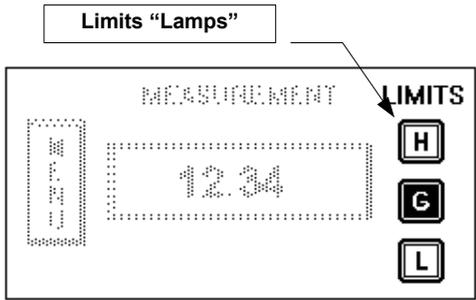

Figure ZD.2-5: Relay Activation GO Relay Activated
The Model MPPU contains three relay contact closures [Section Z.4.d] for the UPPER limit (HI), the LOWER limit (LO) and for when the measurement is between the upper and lower limits (GO). Whenever one of these relays is activated, one of the display “lamps” on the *Readings Screens* will darken {Figure ZD.2-5}. As each relay is activated, the corresponding “lamp” will darken to alert the operator of a relay contact closure. During an extended sensor FAULT condition, all three relays contacts will open until the FAULT condition is corrected.